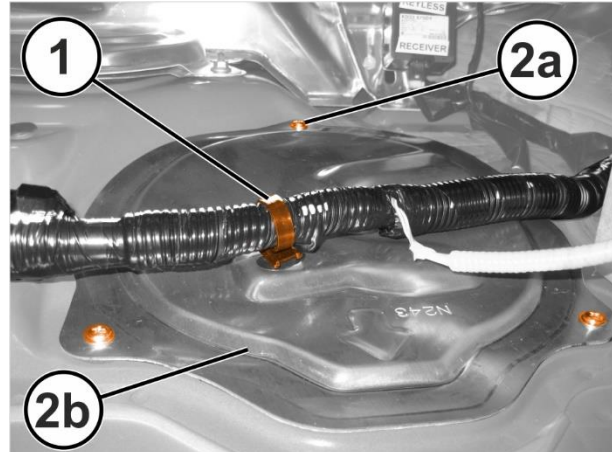

Figure 20 – Fuel Module Cover
- 42. Release the wire harness retainer (1) from the fuel delivery module cover (2b) (Figure 20).
- 43. Remove the screws (2a) then remove the fuel pump module cover (2b) (Figure 20).
16. Place the fuel delivery module cover (2b) in position then tighten the screws (2a) (Figure 20).
17. Attach the wiring retainer (1) to the fuel delivery module cover (Figure 20).